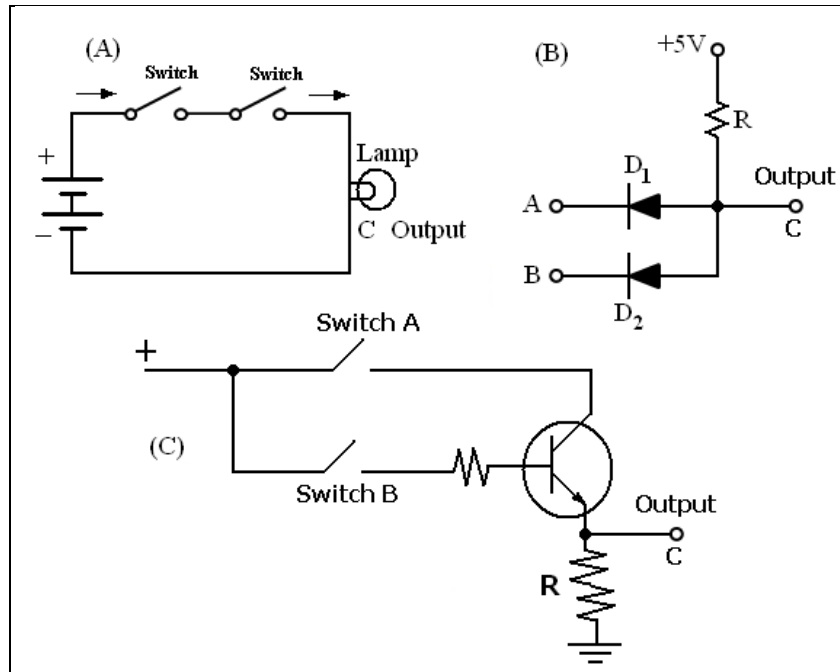

Fig. 3.2-2 Examples of AND Gate
Fig. 3.2-2 shows representation of AND gates using switches, diodes and transistor. In (A), the lamp is ON when switch A AND switch B are closed, the output at (C) is high when the voltages (signals) A AND B are high; in (C), the output at C is high when switch-A AND switch-B are closed.